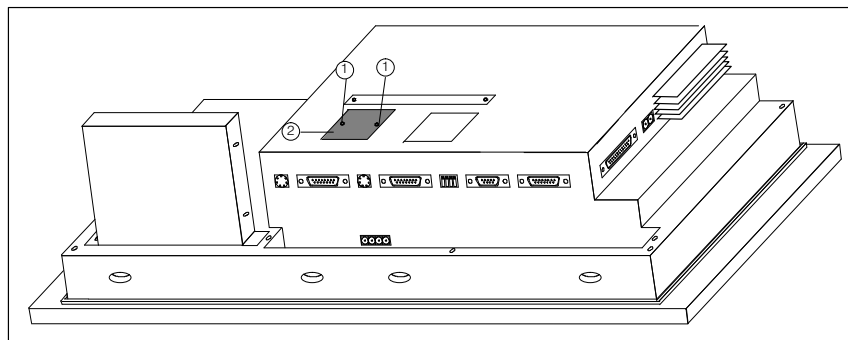
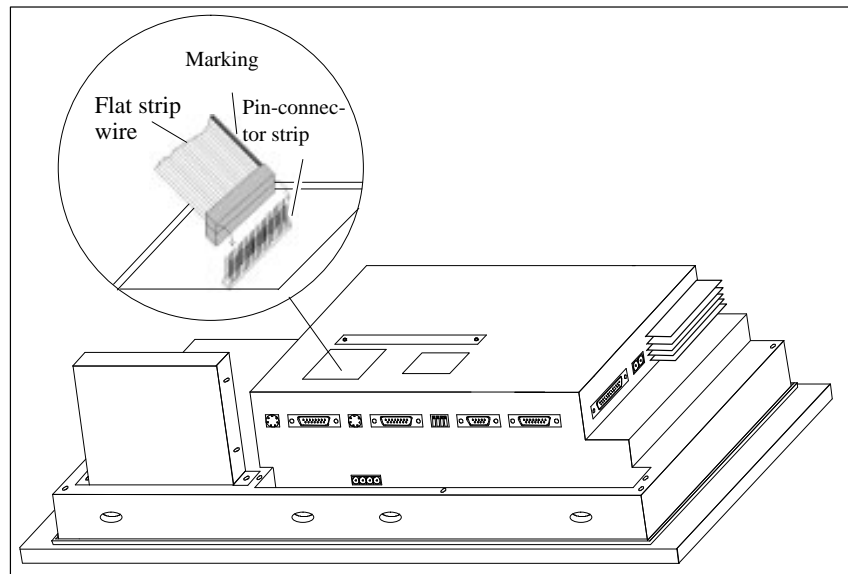

Figure 5-4 Removing the cover plate
Figure 5-5 Insert the plug of the direct key module
2. Release the two rivets ① and remove the cover plate shown in Figure 5-4 with the number ② from the back of the OP.
3. Insert the plug of the direct key module into the socket (refer to Figure 5-5) located beneath the cover ② (see Figure 5-4).